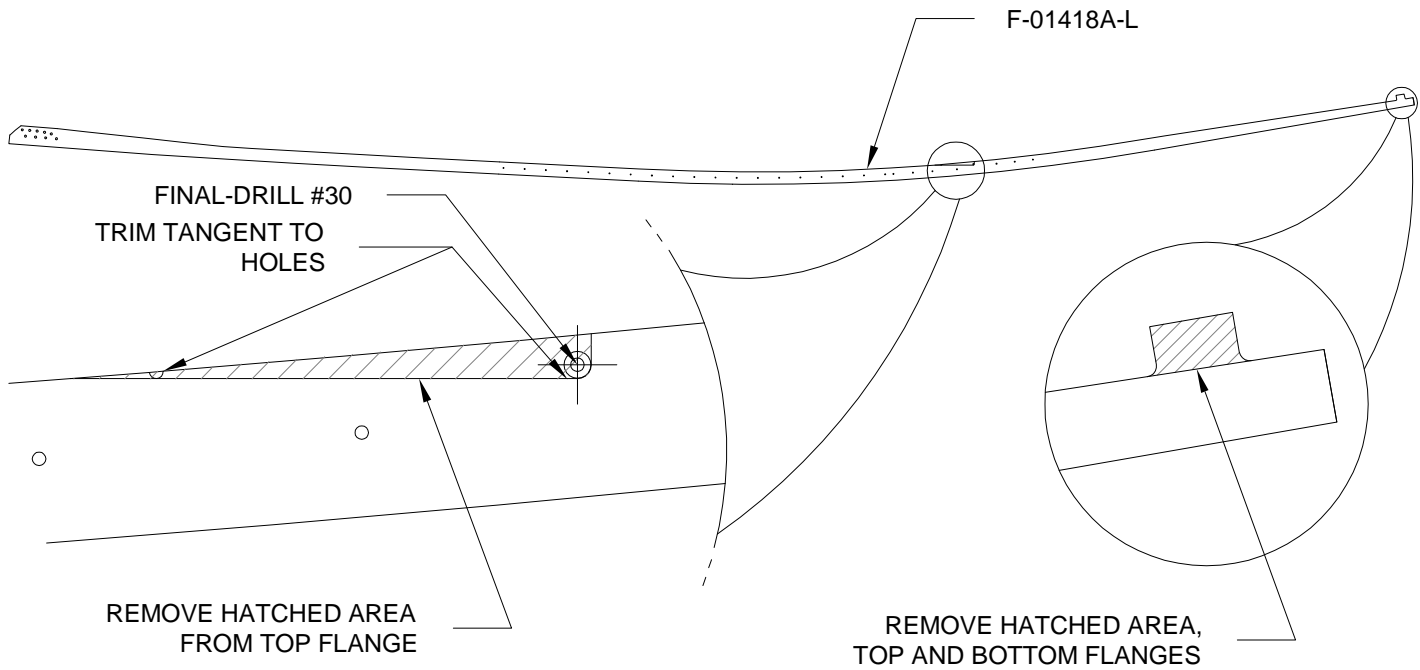

FIGURE 1: TRIM LONGERON
Step 2: Trim the Longerons as shown in Figure 1.